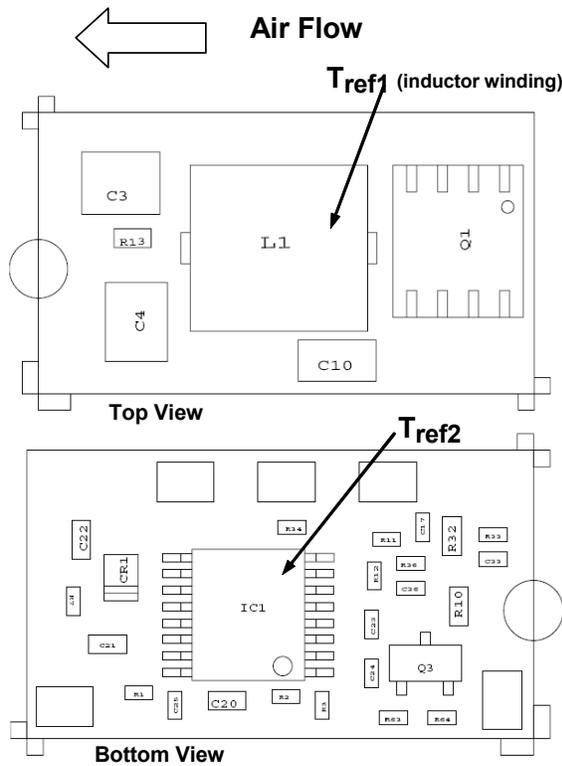
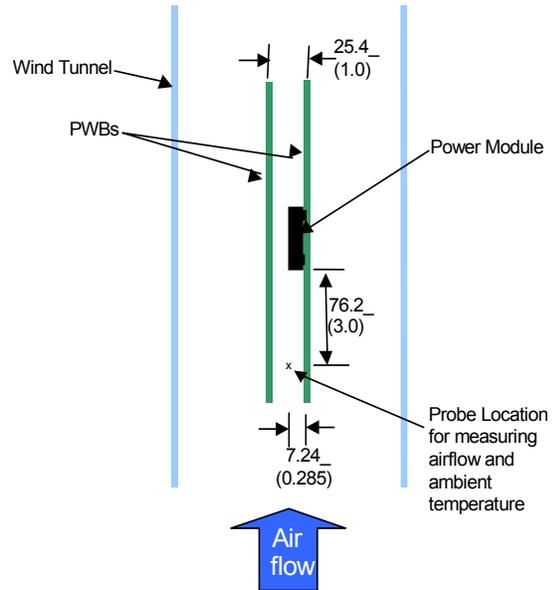

Figure 31. T_{ref} Temperature measurement location.
Figure 32. Thermal Test Set-up.
To provide over temperature protection in a fault condition, the unit relies upon the thermal protection feature of the controller IC. The unit will shutdown if the thermal reference point Tref2, (see Figure 31) exceeds 140°C (typical), but the thermal shutdown is not intended as a guarantee that the unit will survive temperatures beyond its rating. The module will automatically restarts after it cools down.
Considerations include ambient temperature, airflow, module power dissipation, and the need for increased reliability. A reduction in the operating temperature of the module will result in an increase in reliability. The thermal data presented here is based on physical measurements taken in a wind tunnel. The test set-up is shown in Figure 32. Note that the airflow is parallel to the long axis of the module as shown in figure 31. The derating data applies to airflow in either direction of the module's long axis.
The thermal reference points, T_{ref1} and T_{ref2} used in the specifications of thermal derating curves are shown in Figure 31. For reliable operation these temperatures should not exceed 125°C.